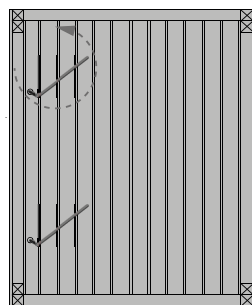

Figure 9.
- 14) Use an Allen key to join the front wall with the left and right walls (see figure 9).